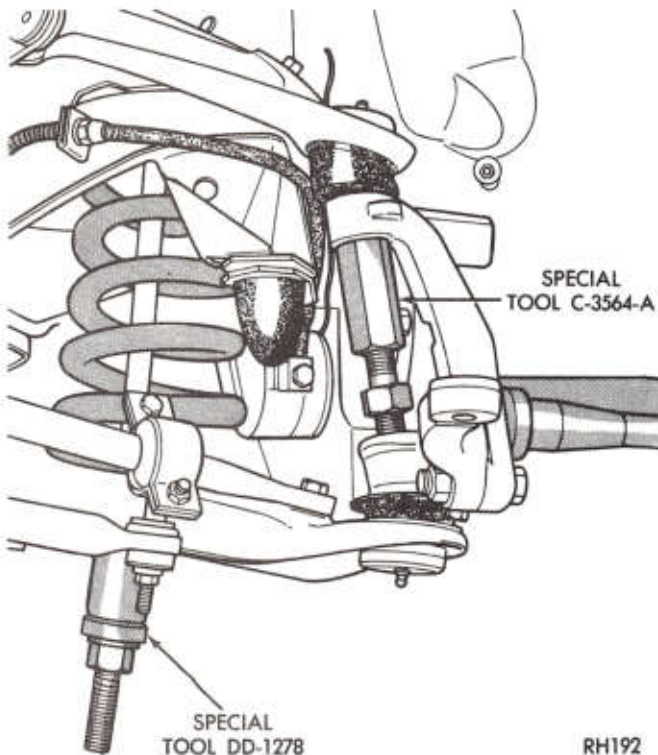

Fig. 5—Ball Joint Breaker and Spring Compressor Tools Installed
(1) Raise the vehicle and install jack stands and lower hoist. Remove wheel and tire assembly.
(2) Remove caliper retainer. Remove caliper from disc by sliding out and away from disc. Hang caliper out of the way. **Do not let caliper hang by hydraulic hose.** Remove inboard shoe.
(3) Remove grease cap, cotter key, lock nut, adjusting nut, washer, and outer bearing.
(4) Carefully slide rotor from steering knuckle. Do not drag seal or inner bearing over steering knuckle thread, (thread, bearing, and oil seal may be damaged).
(5) Remove mounting screws and splash shield.
(6) Remove shock absorber upper nut and retainer, and two lower mounting bolts. Remove shock absorber and upper shock absorber bushing and sleeve.
(7) Remove spring pin from strut (bushing end). Loosen retaining nut.
(8) Install spring compressor Tool DD-1278, tighten finger tight then back off 1/2 turn (Fig. 5).
(9) Remove cotter keys and ball joint nuts.
(10) Install ball joint breaker Tool C-3564-A, turn threaded portion of tool, locking securely against lower stud (Fig. 5). Spread tool enough to place lower stud under pressure then strike steering knuckle sharply with a hammer to loosen stud. **Do not attempt to force stud out of knuckle with tool alone.**
(11) Remove ball joint breaker tool. Slowly loosen coil spring compressor until all tension is relieved from spring. Remove spring compressor and spring.